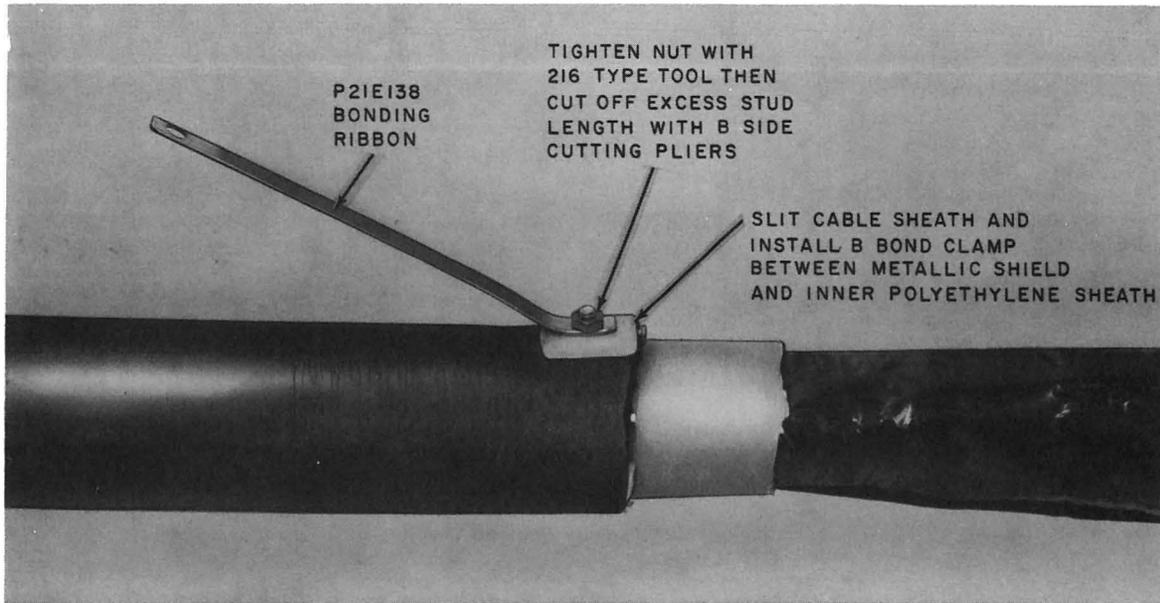

Fig. 6—Installed Bonding Clamp and Bonding Ribbon
4.01 Slit cable sheath and install B bond clamp as outlined in Section 081-852-118 (Fig. 6).
4.02 Using B side cutting pliers, cut off excess stud length of B bond clamp (Fig. 6).